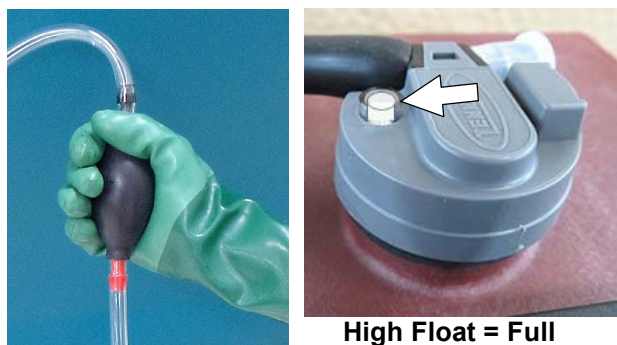

FIG. 84
6. Squeeze the bulb on the hand pump hose until firm. The indicator float will rise when full (Figure 84).